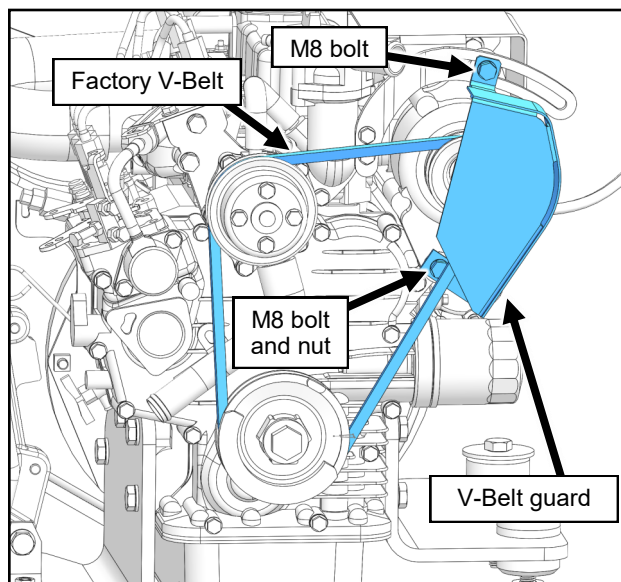

Fig. 3.1 (Remove Alternator and guard)
- 3.1 Remove two M8 bolts holding the V-belt guard shown in Figure 3.1. Remove the guard, factory Alternator, and V-belt.